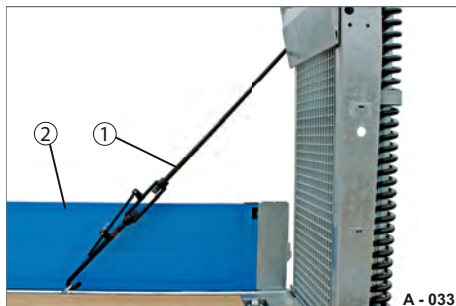

Fig. 43 Open the platform gate
► Unlock (if fitted) the platform gate (Fig. 43/2) and carefully fold it down - see page 172.